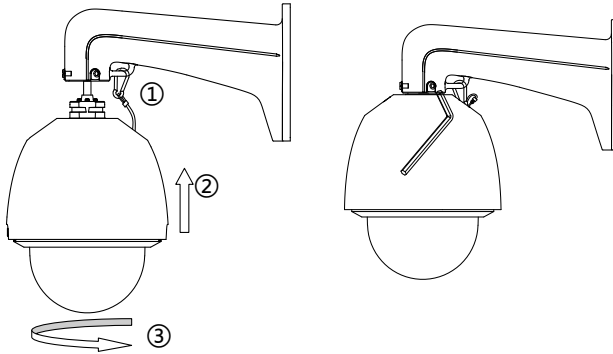

Figure 1-15 Install the Speed Dome
1. Hang the safety rope to the speed dome, and then hook it to the mount as shown in Figure 1-15 (left).
5. Fasten the two lock screws with the Allen wrench, as shown in Figure 1-15 (right).